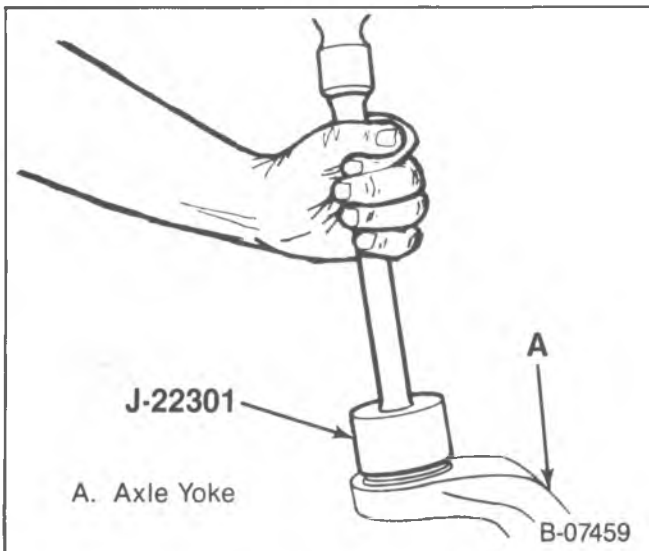
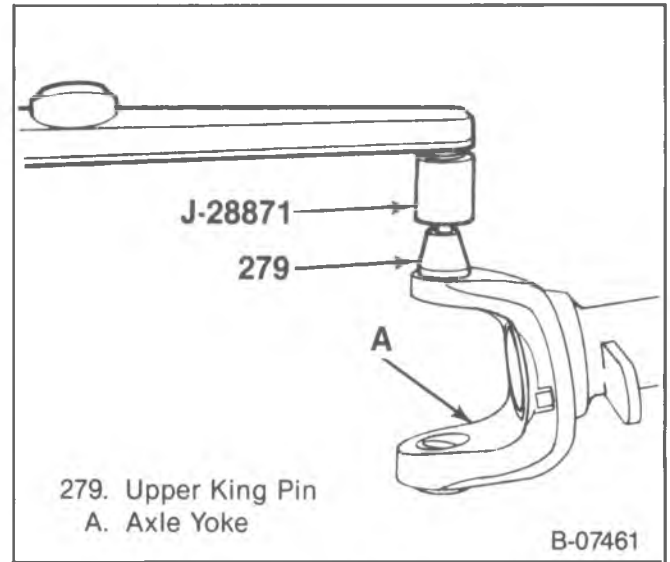

Figure 57—Installing the Seal
Figure 58—Installing the Upper King Pin
3. Bearing (283) and seal (284).
- Use J-22301 to install the NEW seal (Figure 57).
4. Upper king pin (279).
- Use J-28871 (figure 58).
- King pin (279) to 745 N·m (550 ft. lbs.).
5. Steering knuckle (274) and bushing (287).
- Felt seal (280) to the king pin (279) through the steering knuckle.
- Knuckle onto the king pin (279).
- Place the bushing (287) over the king pin (279).
6. Bearing cap and king pin (285) to the steering knuckle (278).
- 4 bolts (271) and washers (272).
- Bolts (271) alternately and evenly to 108 N·m (80 ft. lbs.).